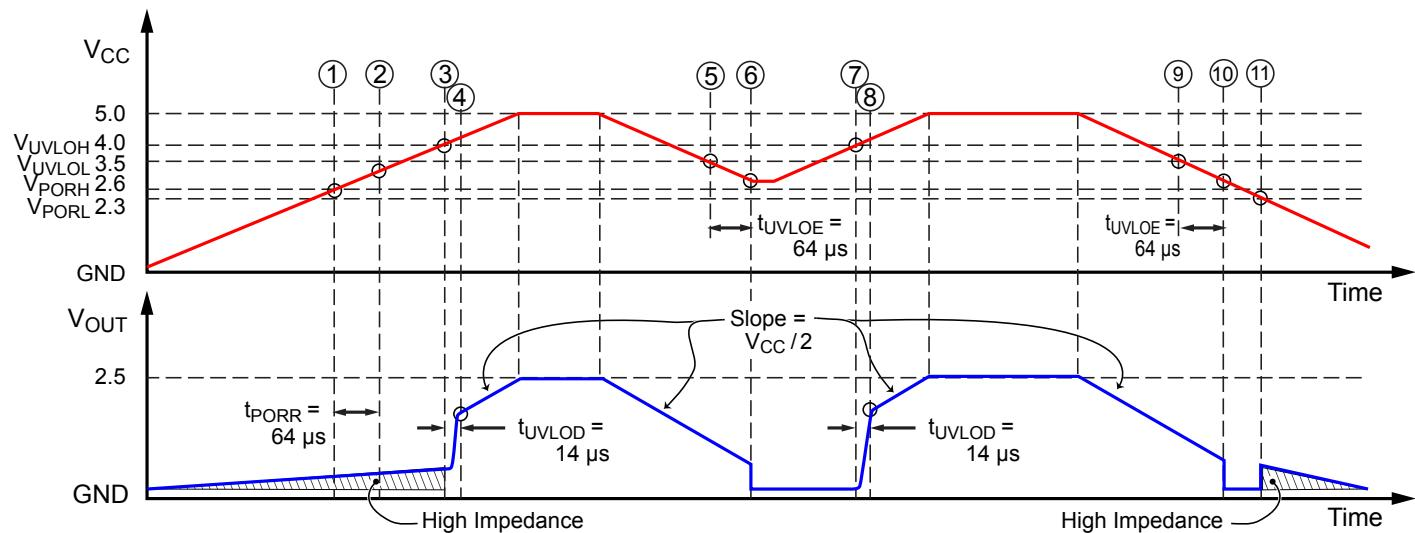
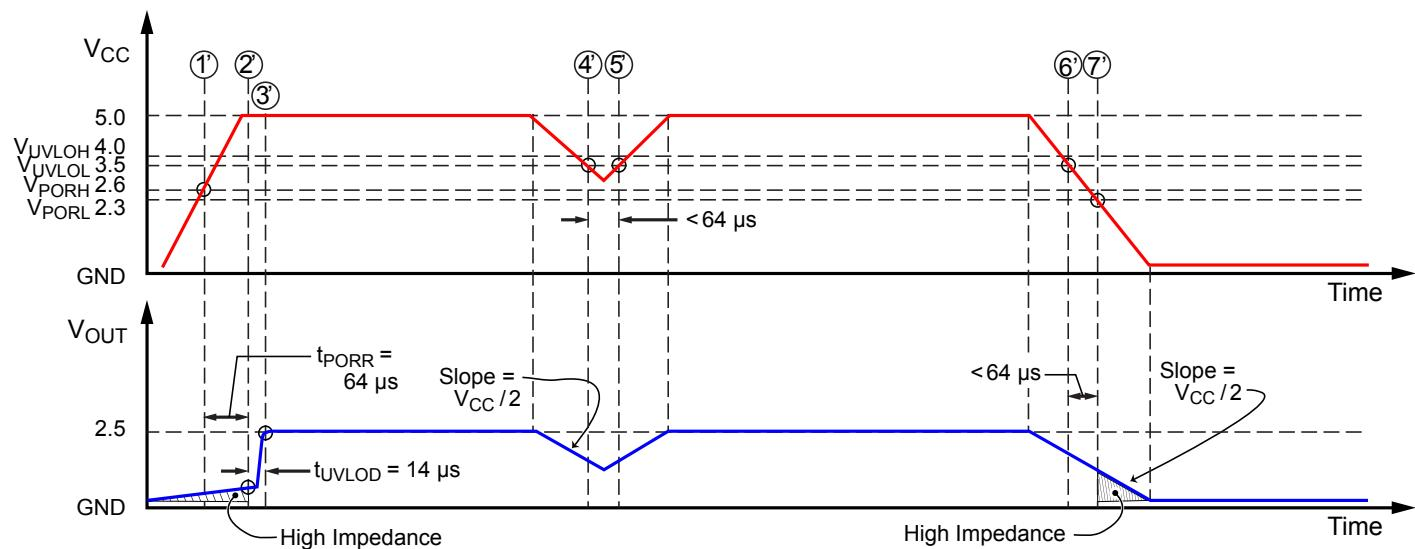

Figure 4: POR and UVLO Operation: Slow Rise Time case
Figure 5: POR and UVLO Operation: Fast Rise Time case
- **Power-Up.** At power-up, as  $V_{CC}$  ramps up, the output is in a high impedance state. When  $V_{CC}$  crosses  $V_{PORH}$  (location [1] in Figure 4 and [1'] in Figure 5), the POR Release counter starts counting for  $t_{PORR} = 64 \mu s$ . At this point, if  $V_{CC}$  exceeds  $V_{UVLOH} = 4 V$  [2'], the output will go to  $V_{CC} / 2$  after  $t_{UVLOD} = 14 \mu s$  [3']. If  $V_{CC}$  does not exceed  $V_{UVLOH} = 4 V$  [2], the output will stay in the high impedance state until  $V_{CC}$  reaches  $V_{UVLOH} = 4 V$  [3] and then will go to  $V_{CC} / 2$  after  $t_{UVLOD} = 14 \mu s$  [4].